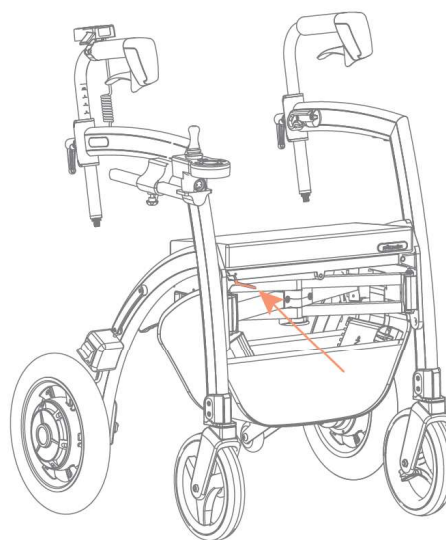
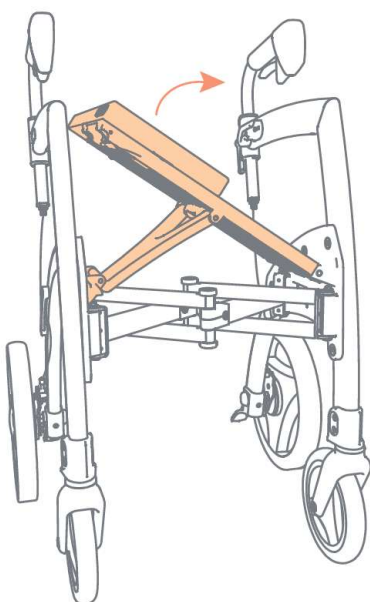

Figure 10
Figure 11
3. Push the red release handle under the seat (Figure 10) and lift the seat partially (Figure 11).